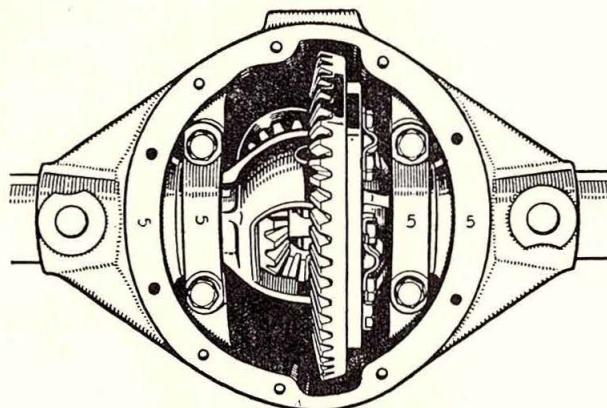

Fig. 18. Differential bearings cap markings.
(8a) Install the differential bearing caps, taking care to ensure that the position of the numerals marked on the gear carrier housing face and the caps correspond, as indicated in Fig. 18. Finally tighten the bolts securing the bearing caps.
(9) When refitting the bearing caps, be sure that the position of the numerals marked on the gear carrier housing face and the caps correspond as indicated in Fig. 18. Tighten the caps lightly, remove the stretching fixture, then finally tighten the bolts securing the bearing caps. Then continue with operation (10).